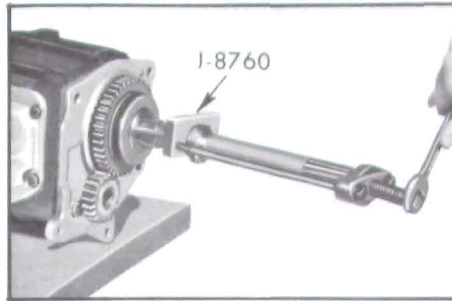

Figure 4-124—Removing Speedometer Gear
8. Remove the speedometer gear with J-8760 as shown in Figure 4-124.